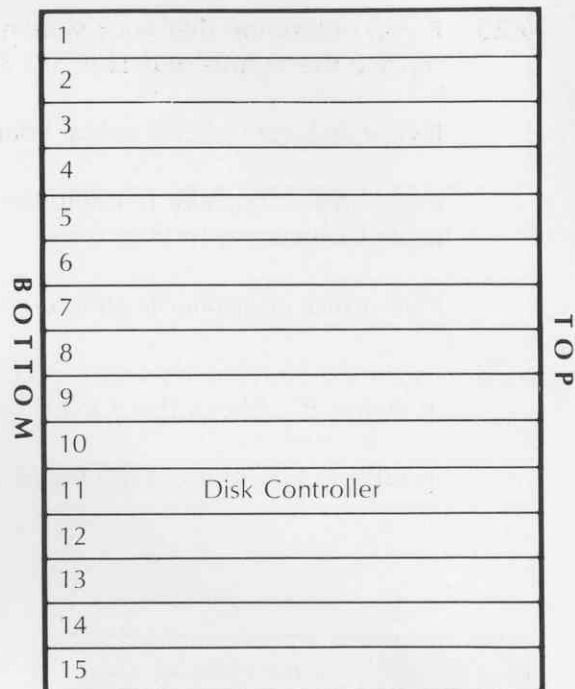

Figure 93 New Disk Controller Location
6.31 Figure 93 shows the new disk controller location.